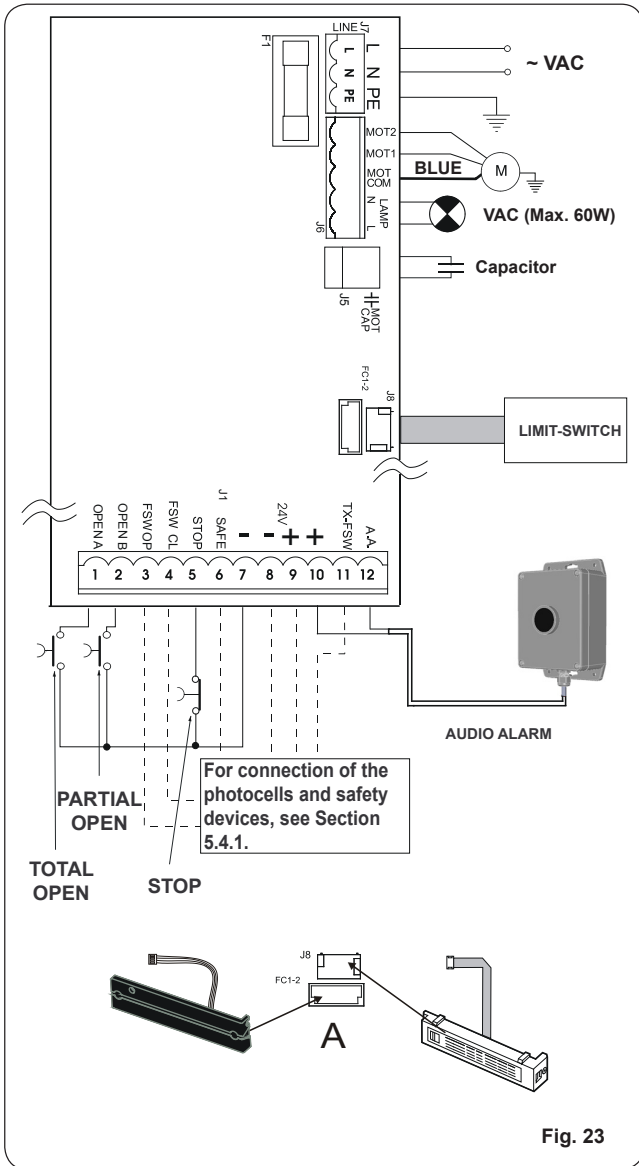

Fig. 23
5.4.2. J7 Terminal Block - Power Supply (Fig. 23)
5.4.3. J6 Terminal Block - Motors / Flashing Lamp (Fig. 23)
5.4.4. J1 Terminal Block - Accessories (Fig. 23)
Connect the supplied Audio Alarm as shown in fig. 23. The alarm will sound upon two consecutive obstacle detections by the operator. It will sound continuously until the activation of the STOP input or a power cycle.
Quick-fit connector for connecting the limit-switch. For connecting both the MLS magnetic limit-switch and the inductive limit-switch (Fig. 23 Ref. ●) to the operator.